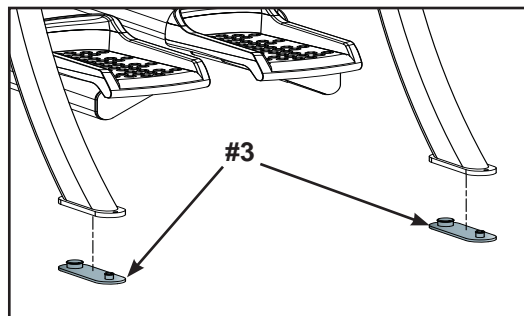

Figure 11
- A. Have one person lift the unit while a second person places a foot pad (#3) under each of the two back feet. See Figure 11.